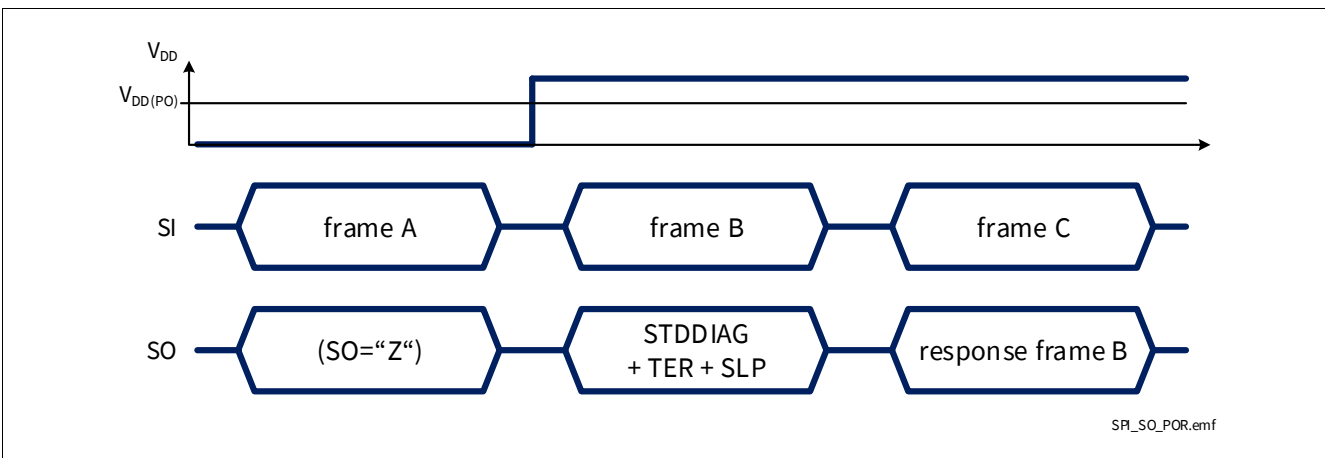

Figure 44 SPI response after coming out of Power-On reset at V_{DD}
- When BTS72220-4ESA digital supply comes out of Power-On reset condition, as shown in Figure 44